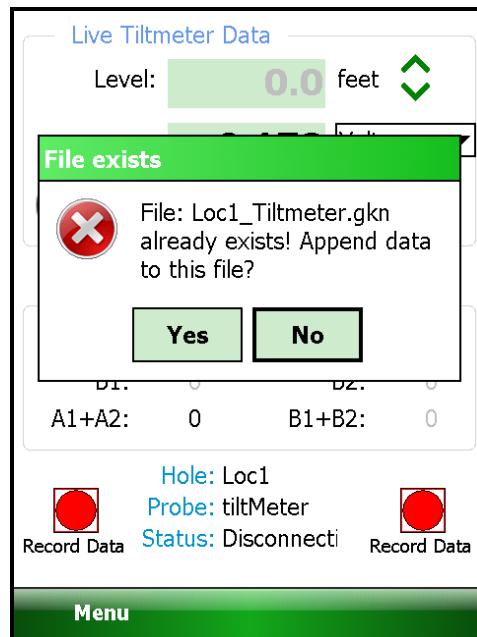

Figure 9 - File Exists Dialog
Figure 9 - File Exists Dialog.....	9
9. After tapping “Save” the GK-604 IRA will determine if the file exists. If this is a new file then the data will be written to it in a format similar to the standard Inclinator format. If a file of the same name already exists then the dialog shown in Figure 9 will be displayed.